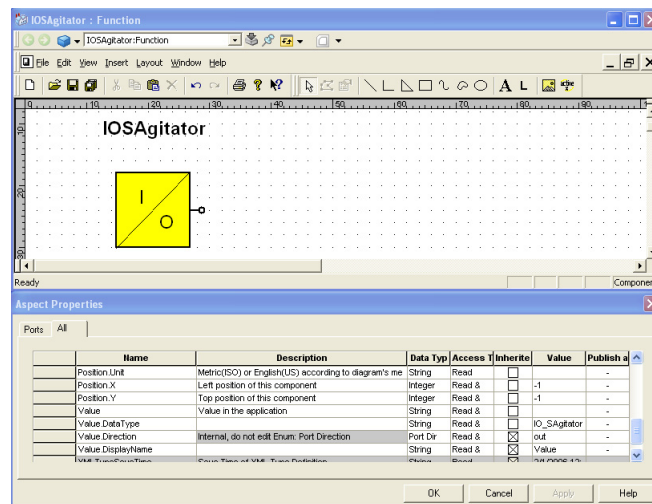

Figure 321. Graphical Symbol for IOSAgitator
- a. Right click on the copied Function Aspect and click **Component**, see Figure 321.
- g. Right click on the background of the drawing and click **Aspect Properties ...**, see Figure 321.